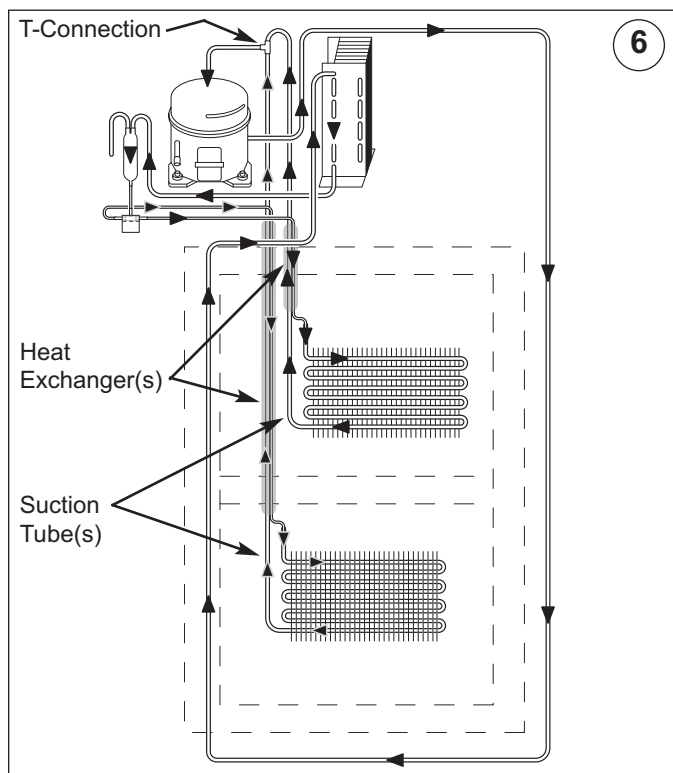

Figure 4-12. Suction Tube(s) & Heat Exchanger(s)
(6) - Suction Tube(s) & Heat Exchanger(s) (Figure 4-12)